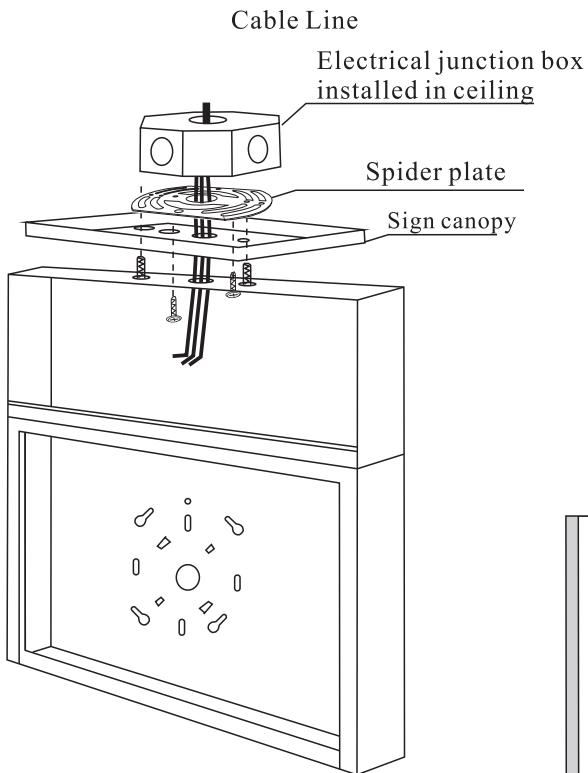

Fig.5
5.2.2. A single wire pass-thru and pair of canopy screw knockouts are stamped into the top and end of the sign. Knock out the appropriate set of three (3) holes (Fig. 5).
5.2.5. Mount the sign securely to the wall or ceiling. The hole spacing in the canopy is designed to fit most standard electrical junction boxes. A steel, universal spider plate is supplied to allow mounting to alternate size /type boxes (Fig. 5).